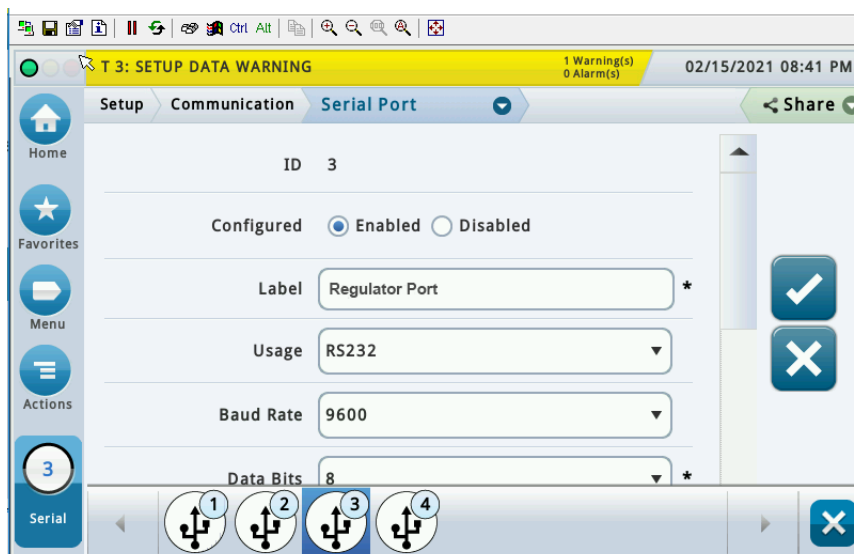

Figure 35. Example Serial Port Setup Screen
1. On the TLS-450PLUS touch **Menu>Setup>Communication>Serial Port**. Use the required ISD dedicated Comm port, e.g., select serial port 3 (Figure 35).